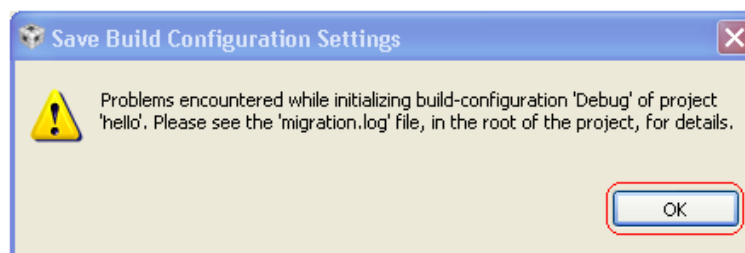

Figure 12. Save Build Configuration Settings
- Click on the OK button when the dialog box appears as shown in Figure 12.